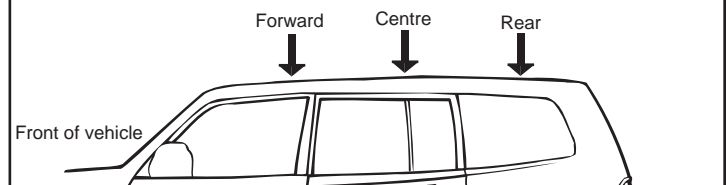

Fig. 4.
4. On each side of the roof you will find three Anchoring Bracket covers. Remove the appropriate anchor point covers for the specified fitment. Below these covers are the Anchoring Brackets. (Fig.4).